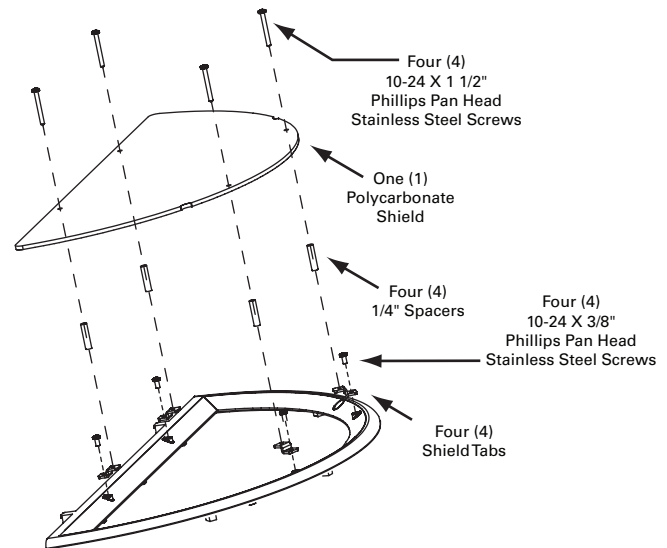

FIG. 1
2. Insert four [4] 10-24 X 1 1/2" screws through the vandal shield and the spacers as shown in **FIG 1**. Line up the screws with spacer with shield tabs and tighten it securely. Repeat the process with all four [4] screws.